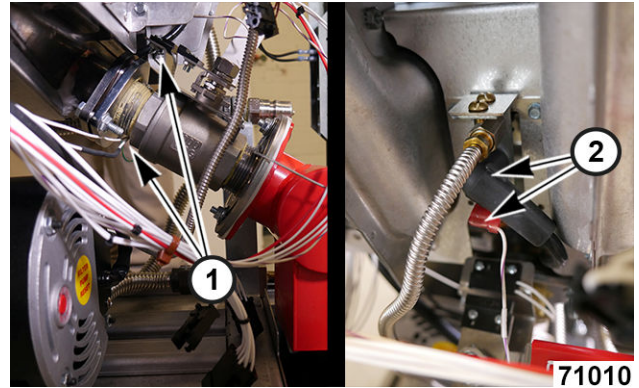

Fig. 111
- A. Drain valve switch (D.V.I) (1, Fig. 111).
- B. Pilot assembly (2, Fig. 111).